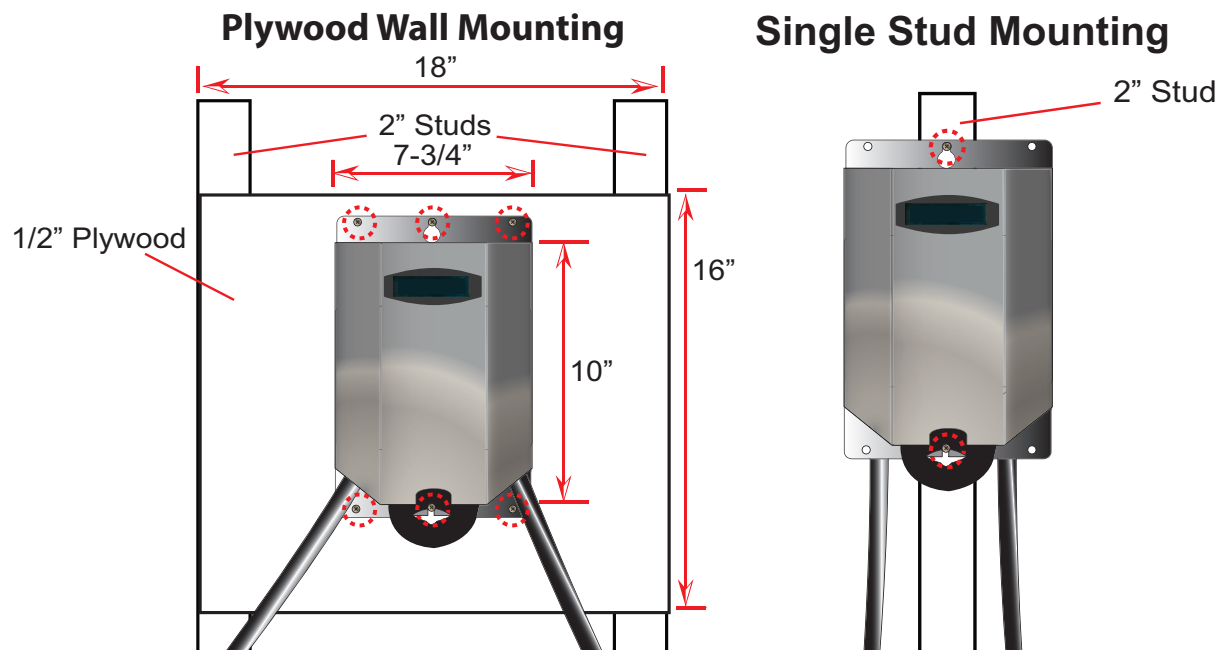

Figure 3. WallWattz Wall Mounting Options
1. Choose the appropriate installation method, and then proceed to the next step for detailed instructions (reference Figure 3):